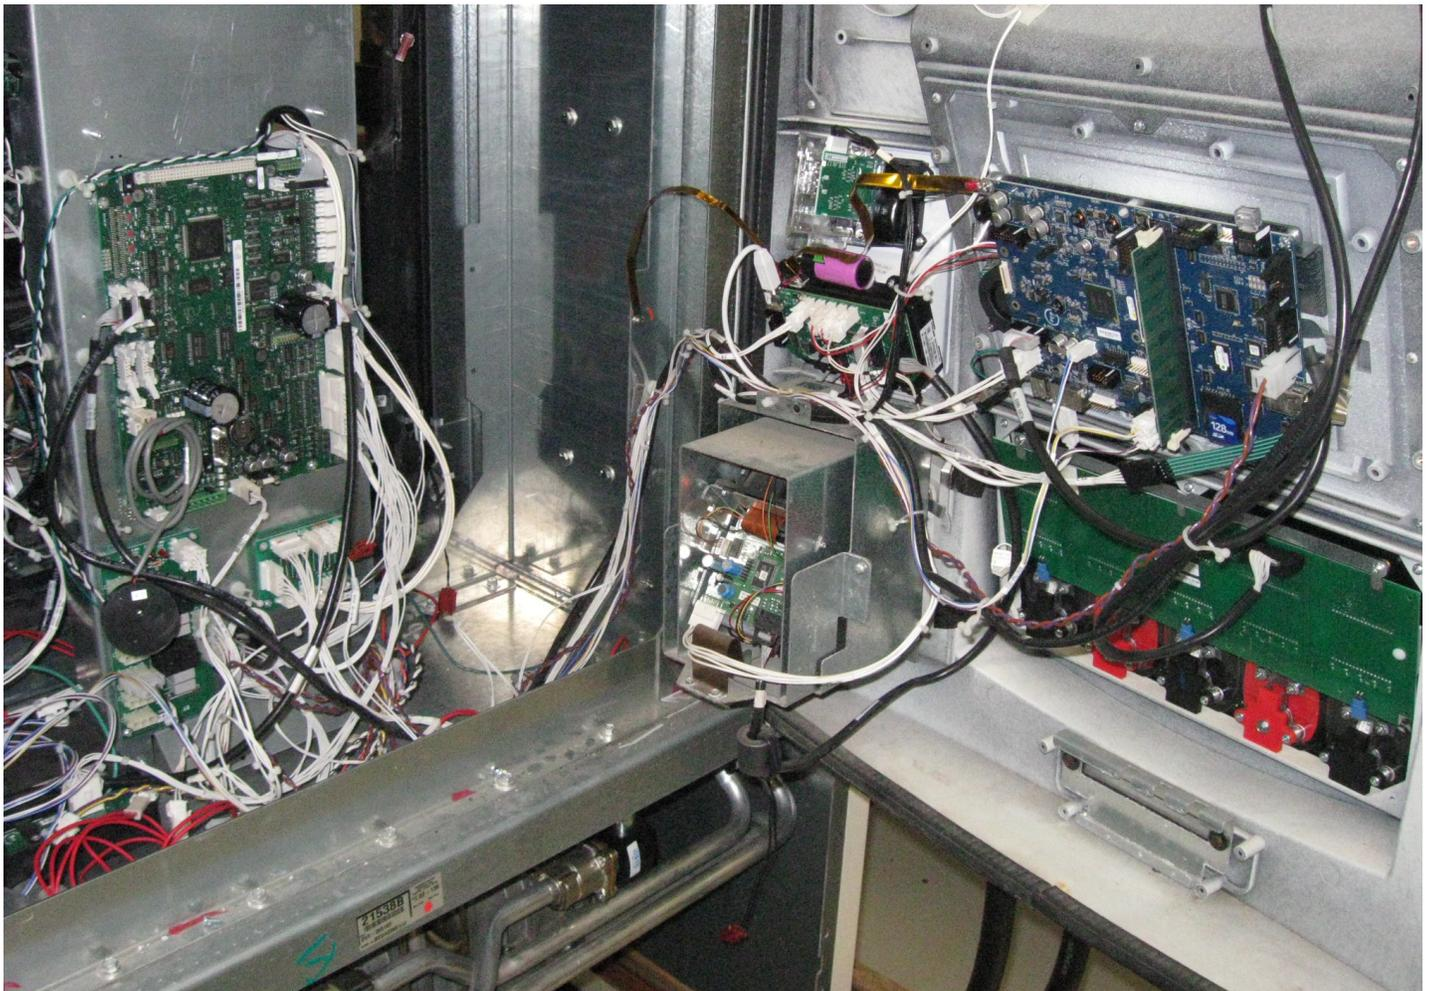

FIGURE B1
SEE FIGURES B1 AND B2
14. Connect the following cables (Figures B1 and B2):
SEE FIGURES B1, B2, and C
14. Connect the following cables, referring to Figures B1 and B2: